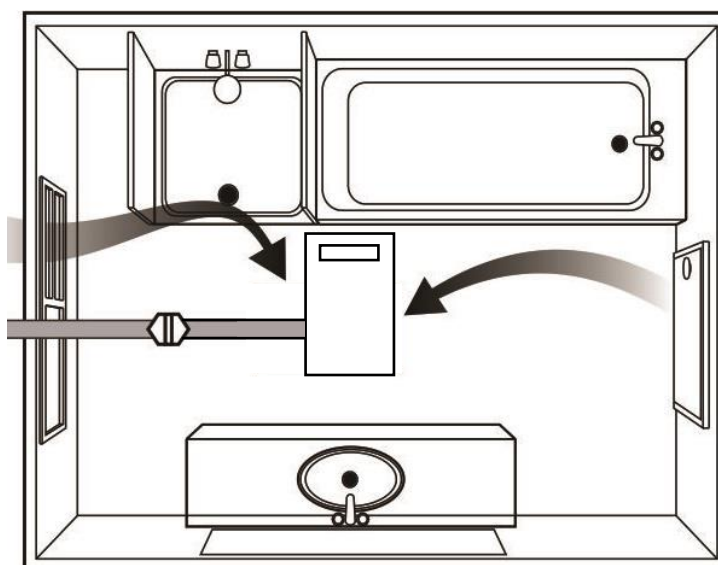

Fig. 3
1. Select a suitable location in which you wish to install the heater fan. Note it should not be in an area where the product may come in contact with water such as above a shower or bath. The centre of a room is ideal. (Fig. 3)